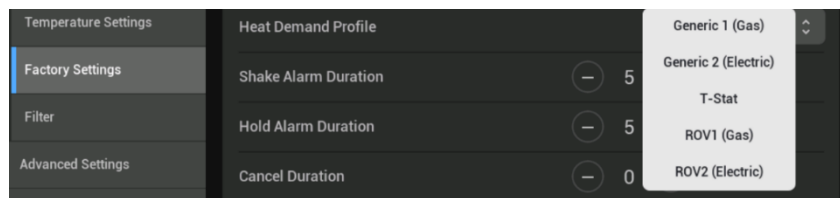

Figure 167 - Heat Demand Profile
**Heat Demand Profile** can be set based on the physical battery specs **Figure 167**.